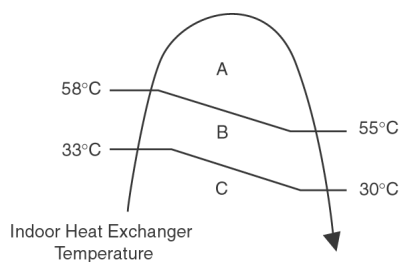

Figure 1
1. Automatic vertical airflow direction can be set using remote controller; the vane swings up and down within the angles as stated above. For heating mode operation, the angle of the vane depends on the indoor heat exchanger temperature as Figure 1 below. When the air conditioner is stopped using remote controller, the vane will shift to close position.